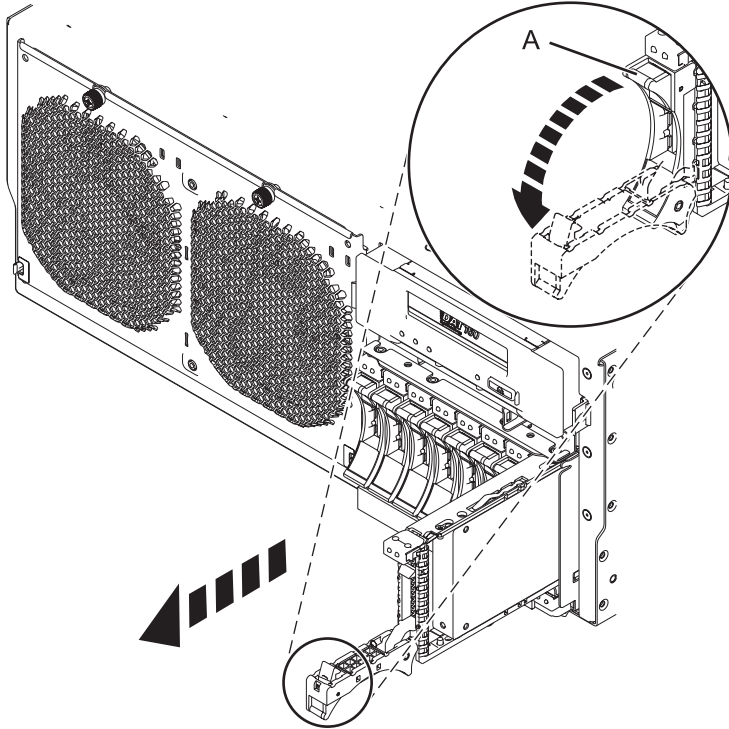

Figure 37. Removing a disk drive from the system
1. On the system, unlock the drive handle by squeezing it and pulling it out toward you, as shown in Figure 37 on page 56.